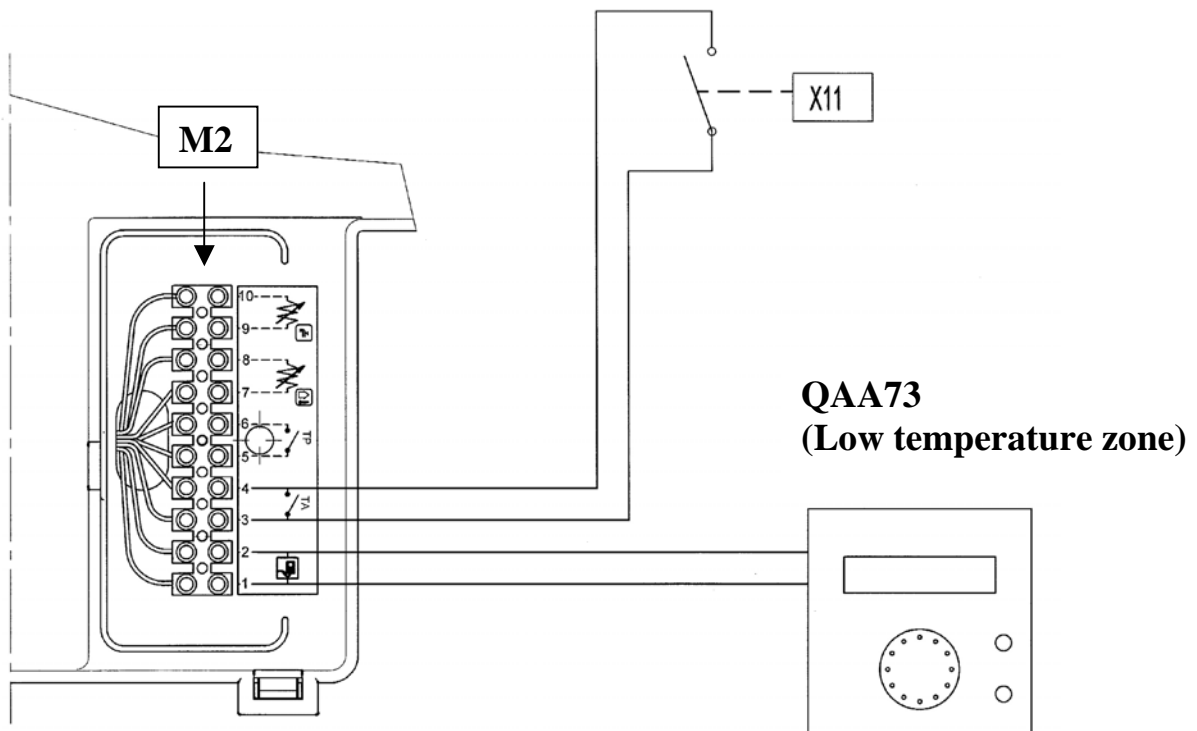

Figure 9
- The temperature control device QAA73 must be connected to the terminal boiler board M2 pins 1-2 (figure 9).
- The QAA73 must be connected to the terminal boiler board M2 pins 1-2 (figure 9).